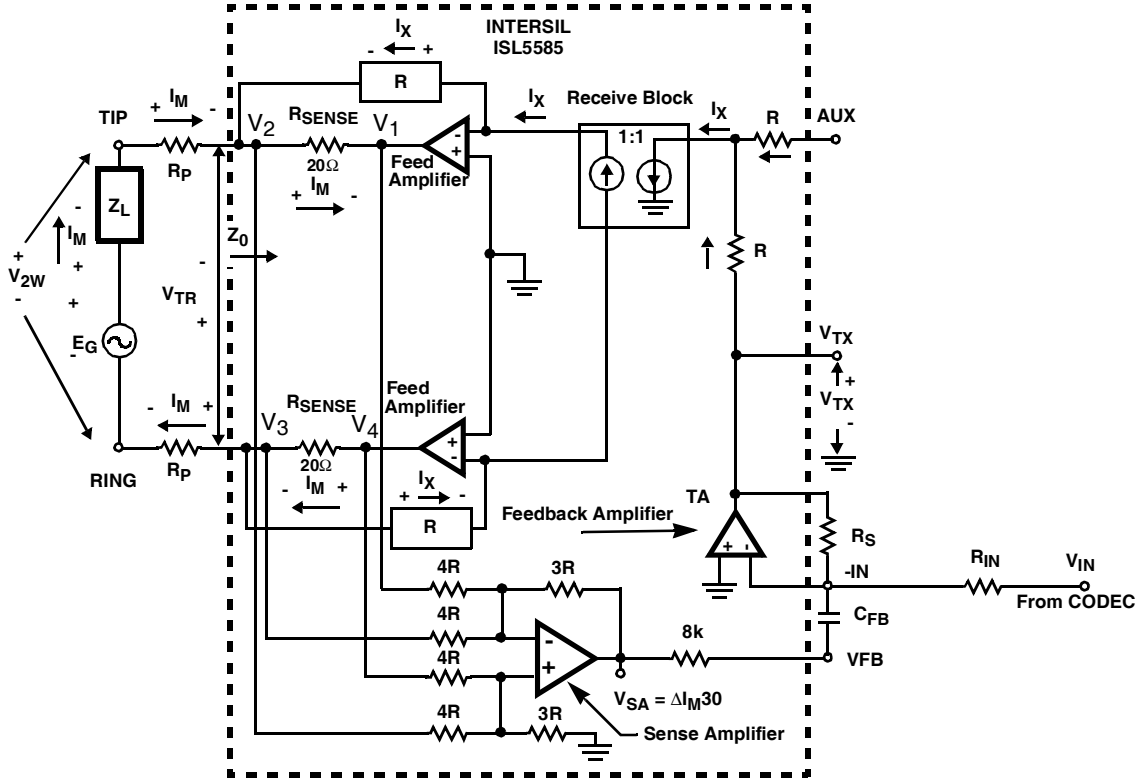

FIGURE 4. AC SIGNAL TRANSMISSION MODEL
The feedback mechanism for monitoring the AC portion of the loop current consists of two amplifiers, the Sense Amplifier (SA) and the Transmit Amplifier (TA). The AC feedback signal is used for impedance synthesis. A detailed model of the AC feed back loop is shown in Figure 4.
The Sense Amplifier is configured as a 4 input differential amplifier with a gain of  $3/4$ . The voltage at the output of the sense amplifier ( $V_{SA}$ ) is calculated using superposition.  $V_{SA1}$  is the voltage resulting from  $V_1$ ,  $V_{SA2}$  is the voltage resulting from  $V_2$  and so on (reference Figure 4).
$V_{TR}$  is defined in Figure 4, note polarity assigned to  $V_{TR}$ :
Node Equation at ISL5585 AUX input, Figure 4
4-wire to 2-wire gain across the ISL5585 is equal to the  $V_{2W}$  divided by the input voltage  $V_{IN}$ , reference Figure 4. The receive gain is calculated using Equation 32.
The 2-wire to 4-wire gain is equal to  $V_{TX}/E_G$  with  $V_{IN} = 0$ , reference Figure 4.